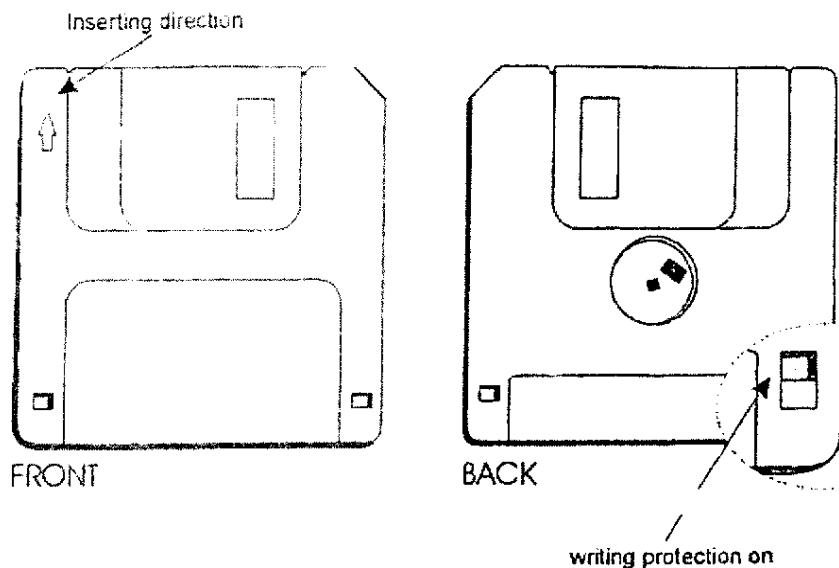

Fig. 2.5 - Floppy disk
- To correctly insert the floppy disk into the drive, take the disk so that the arrow impressed on the plastic cover faces the top and points to the drive (see Fig. 2.5).
- Gently push the floppy disk into the drive (1): if the drive seems to offer resistance to the disk, immediately stop and verify that